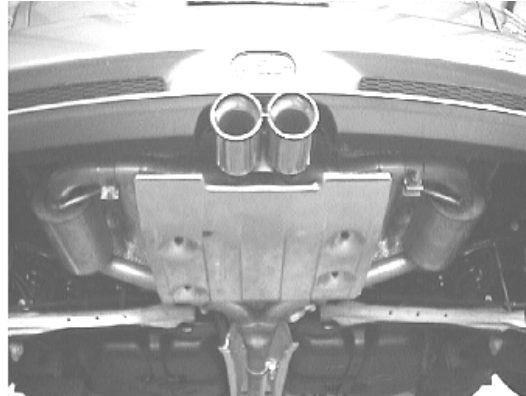

Figure 9
2. Lift the assembled rear section into place and install the rubber brackets on to the hangers as shown in figure 9.